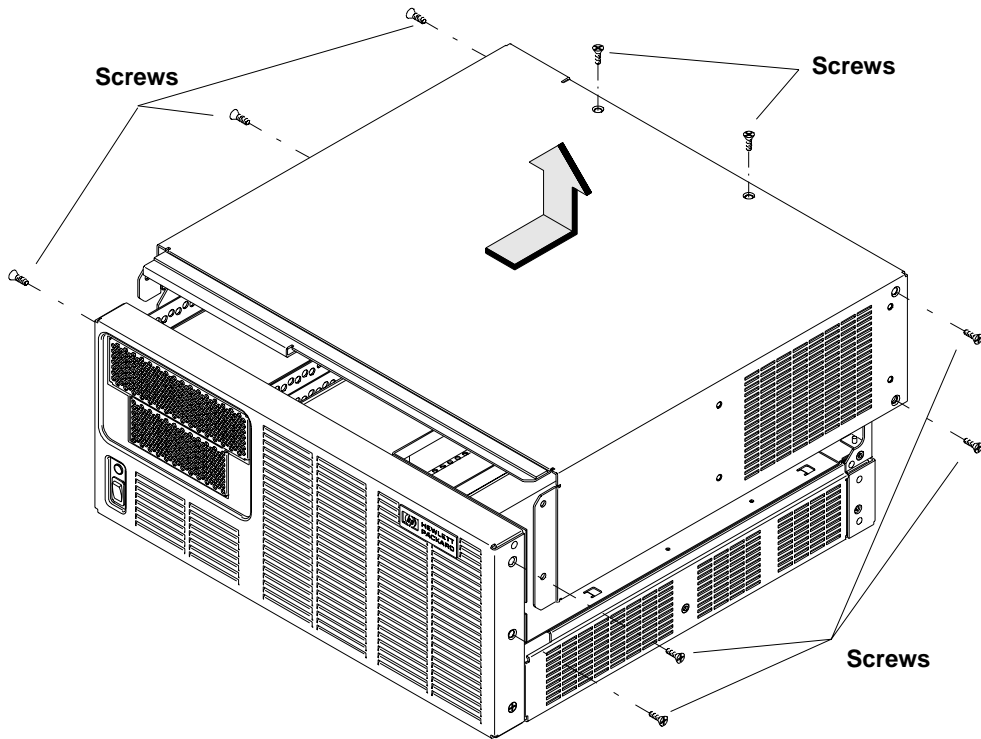

Figure 6-1 **Removing the top cover**
- 4** Remove the top cover of the system, as shown in Figure 6-1. There are nine screws to remove.